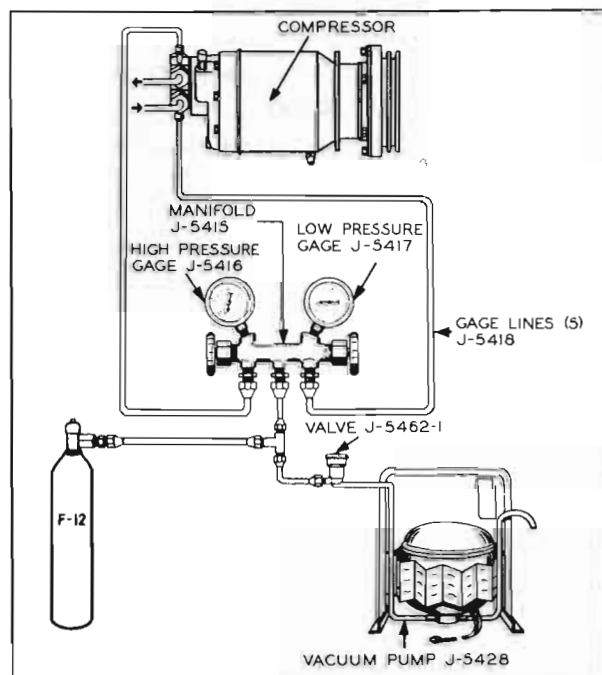

Figure 11-67—Service Charging Hook-Up
1. Attach gauge lines and vacuum pump set-up as shown in figure 11-67.
1. Hook up gauges, lines and Freon 12 Cylinder as shown in Figure 11-67, but substitute a bottle or other suitable container in place of the vacuum pump. The container is to catch the
shown in Figure 11-67, place the cylinder in a bucket of hot water which does not exceed 125°F.